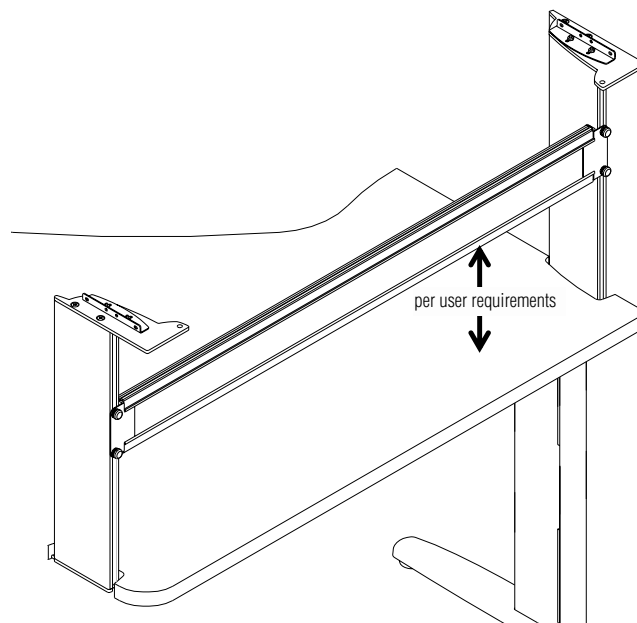

Figure 24
**Note:** The tool rail may be positioned at any height on the back of the stanchions, and may be repositioned at a later time if desired (Figure 24).